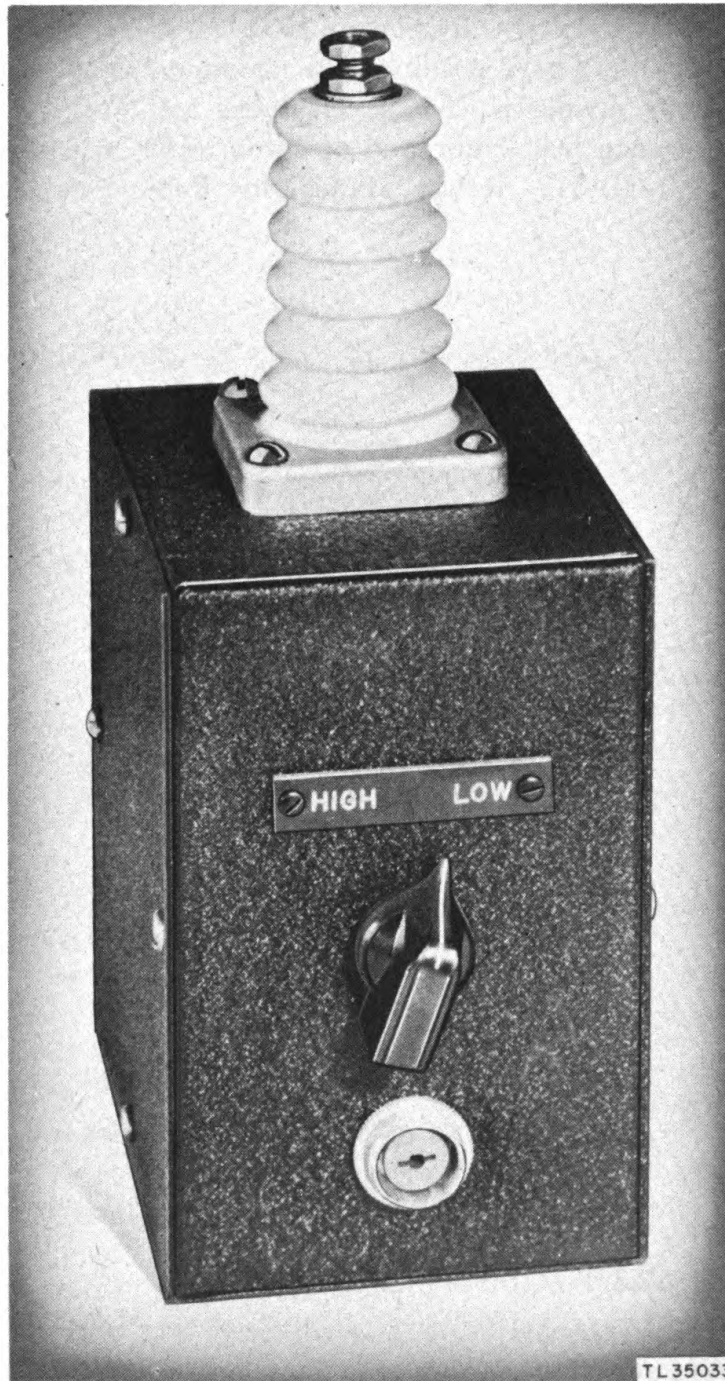

Figure 11. Capacity divider.
13. CAPACITY DIVIDER (fig. 11).